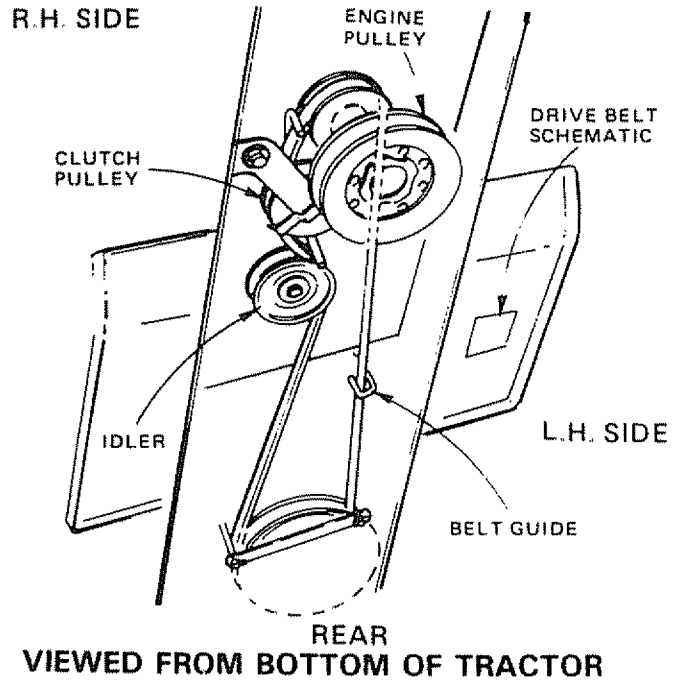

FIGURE 33
- e. Roll belt over engine pulley and off idler (Fig. 33).
- g. Reset parking brake. Pull belt over top of clutch pulley (Fig. 33)